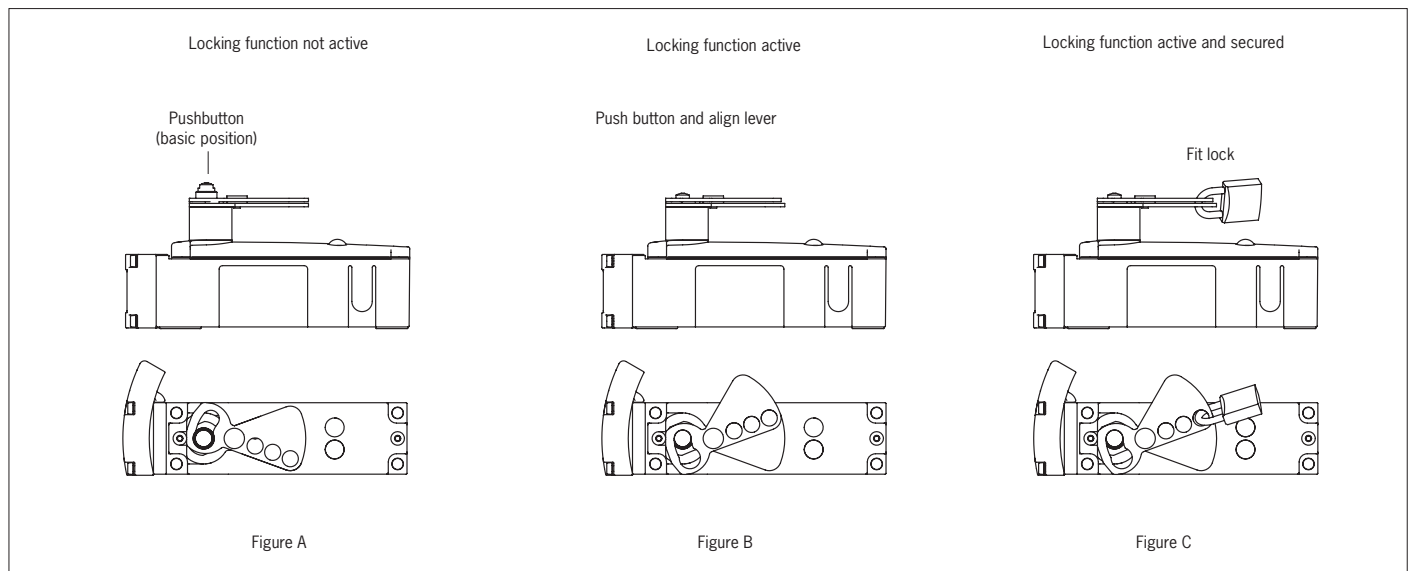

Figure 6: Using the lockout bar
2. Press button, move lockout bar to locking position (Figure 6, A and B) and secure with lock (Figure 6, C)
3. Move lockout bar to basic position (Figure 6, A)